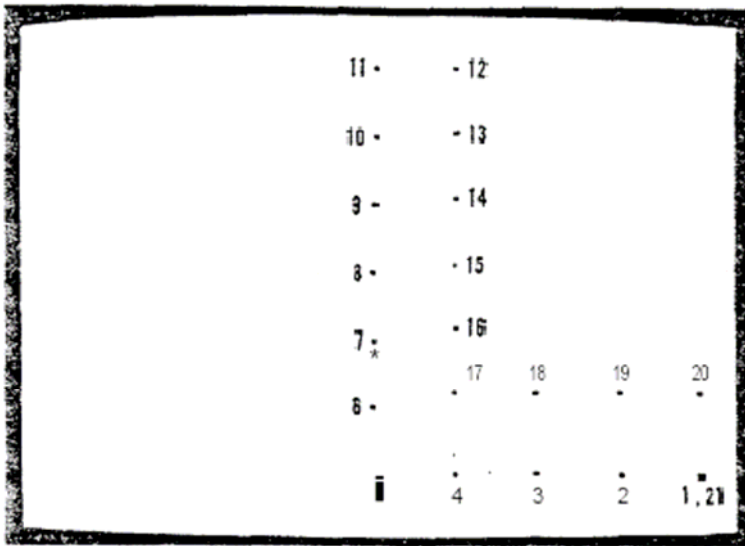

fig. 11 (BASE LINE GRAPH)
Follow the 8 steps below to plot the BASE UNE (see fig. 11)
3. Use the DRAW MENU (accessed by the "D" (Draw) key) to help plot a 5-point line to X = 0, Y = -40 (add the 4 pts. 2 to 5, fig. 11). (To accomplish this, go to the DRAW MENU and load "4" into NO. OF POINTS, "3" Into X DRAW, "-40" into Y DRAW and "1" Into UNE{1} CUFIVE(O). Return to the graph and then use the A {Advance/Draw} key to jump the cursor to each point and the "." (Plot) key to plot the points.)
The BASE LINE is now finished. It should look like fig. 11. It helps to make a final check before saving the BASE LINE to disk. The following check is recommended: